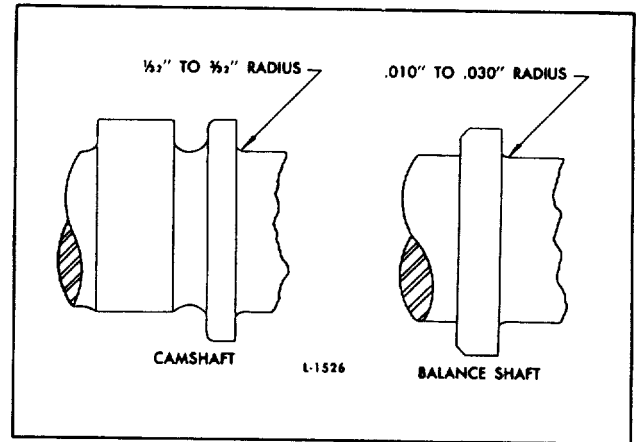

Fig. 9. Camshaft and Balance Shaft Journal Fillets
1. Leave a .031 " to .094 " radius between the bearing surface of the thrust collar shoulder and the bearing surface of the camshaft (Fig. 9).
2. Leave a .010 " to .030 " radius between the bearing surface of the thrust collar shoulder and the bearing surface of the balance shaft (Fig. 9).